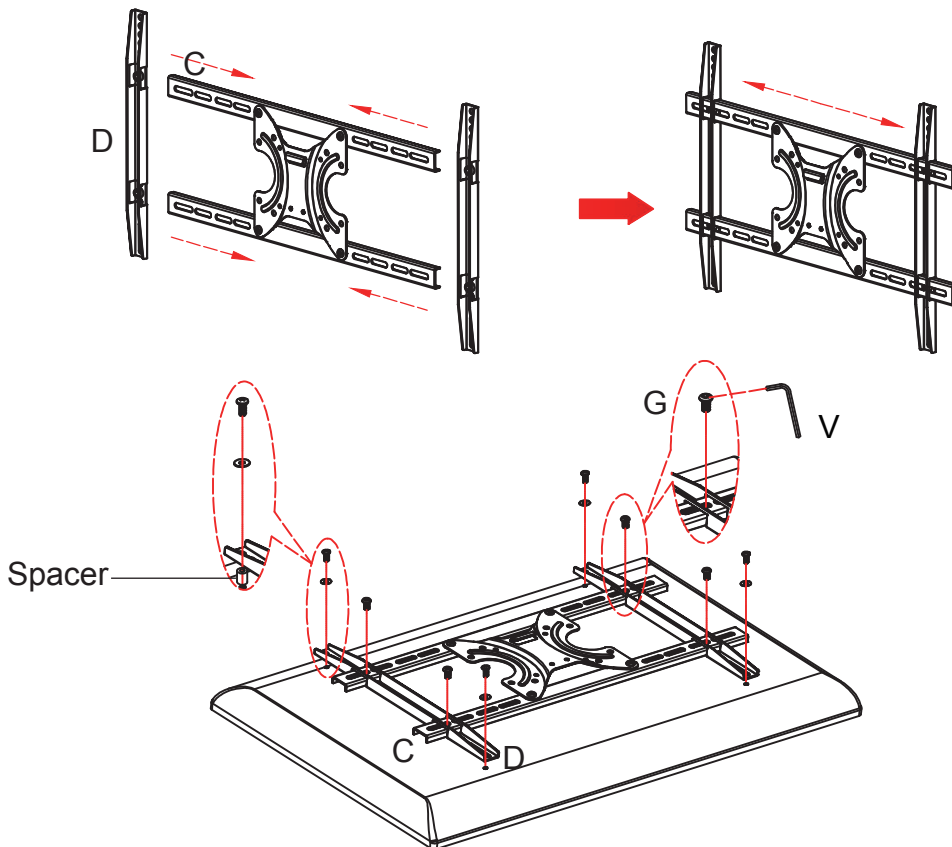

Figure 1
Slide Fixed Arm (D) onto TV Bracket (C). See **Figure 1**.